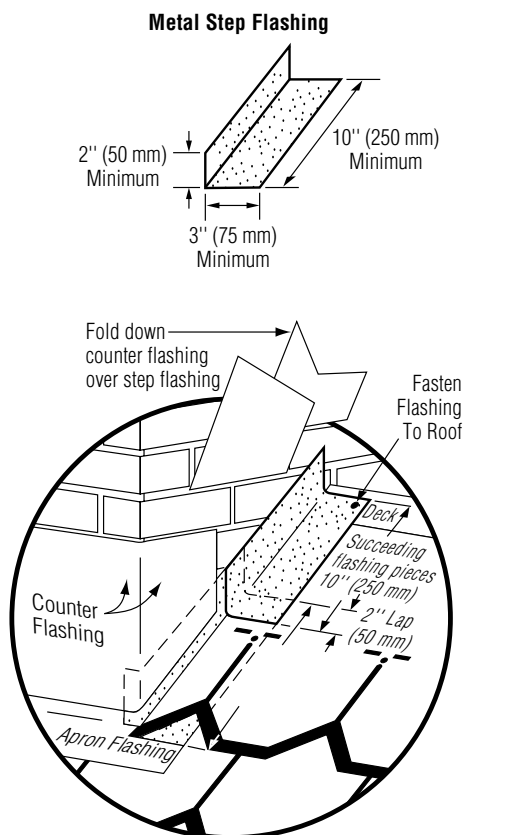

Figure 19-14: Metal step flashing for Carriage House®.
**INSTALLING STEP FLASHING:** Use 10" by 5" corrosion-resistant metal such as copper. For the first course of Carriage House® only, use a 12" by 5" piece of metal flashing (Figure 19-14).